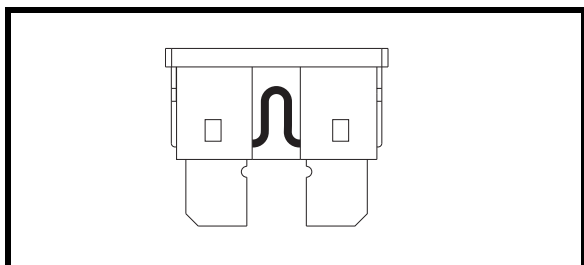

Figure 25. Working Fuse
2. Examine the fuse to be sure it is blown. See figures 25 and 25A.